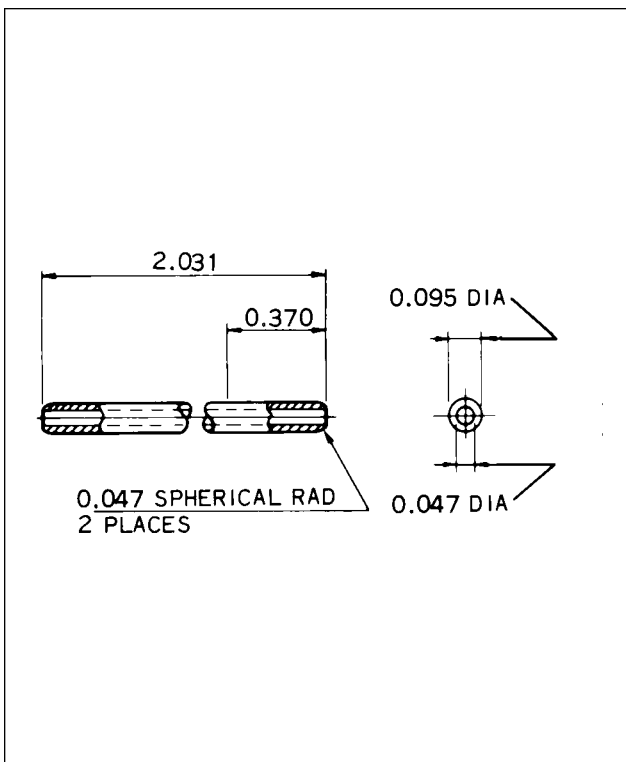
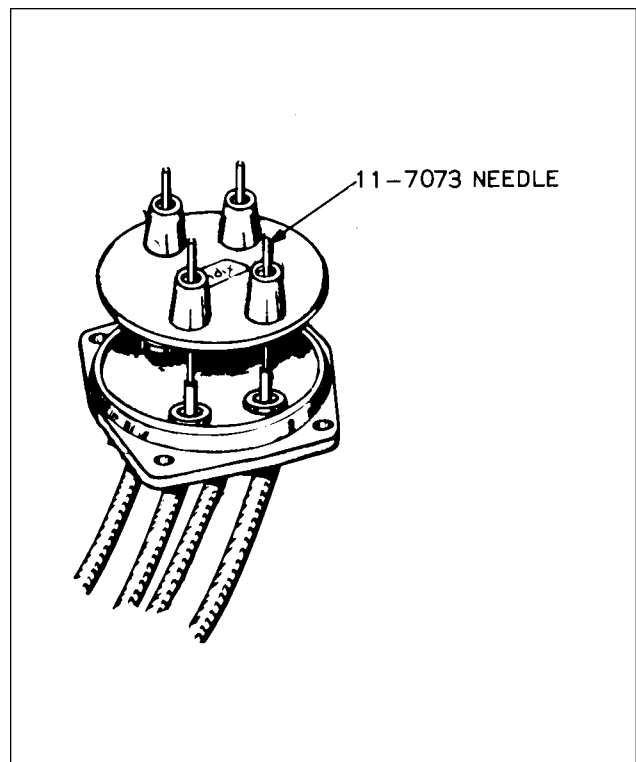

Figure 74-17. Needle
Figure 74-18. Installing Grommet Over Lead Assemblies
- N. Inset Bendix 11-7073 Needle (Figure 74-17) through the small hole of the grommet and over the stripped end of the wire. (Refer to Figure 74-18.) Slide grommet down needle until it seats tightly against the tapered ferrule.